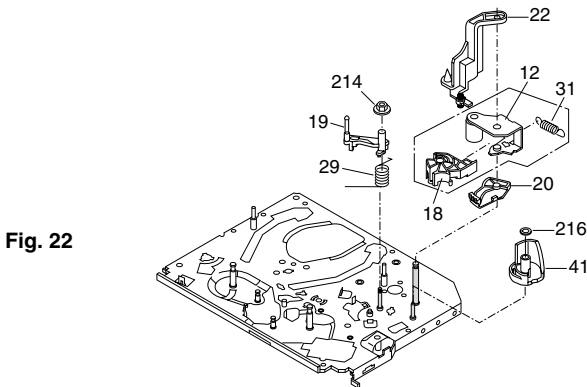

Fig. 22
- Fit the reverse drive lever (Pos. 20, Fig. 22).
- Secure the pinch roller cam wheel (Pos. 41) with the securing ring (Pos. 216, Fig. 22)).